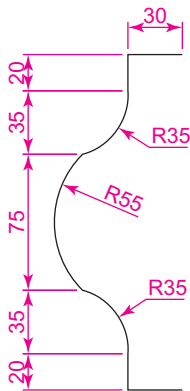

Fig. 5.7 First example – Mirror – outline
1. Construct the outline Fig. 5.7 using the **Line** and **Arc** tools.